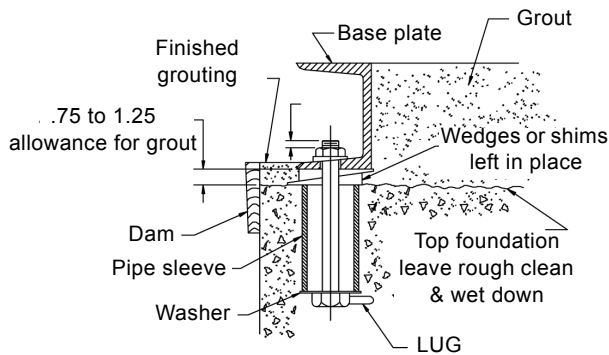

Fig. 2 Anchor bolt installation
Horizontal pumps should be permanently installed on a firm, concrete foundation mounting pad of sufficient size to dampen any vibration and prevent any deflection or misalignment. The pad may float on springs or be a raised part of the equipment room floor. The foundation should be poured without interruption to 3/4 to 1 - 1/2 inches below the final pump elevation. The top surface should be well scored or grooved before the concrete sets to provide a suitable bonding surface for the grout. Anchor bolts should be set in pipe sleeves for positioning allowance, as shown in Fig. 2. Allow enough bolt length for grout, lower base plate flange, nuts and washers. Allow the foundation to cure several days before proceeding with pump installation.
- After pump alignment has been established (LF), put nuts on foundation bolts and tighten them just enough to keep the unit base plate from moving. Construct a form or dam around the concrete pad and pour grout in and around the pump base, as shown in Fig. 2. Grout compensates for uneven foundation, distributes the weight of the unit, and prevents shifting. Use an approved, non shrinking grout (such as Embeco 636 by Master Builders, Cleveland, Ohio or equivalent). Allow at least 24 hours for this grout to set before proceeding with piping connections.
The PACO LCV Vertical Close Coupled pump need not be grouted to its foundation, but should be anchored with 4 anchor bolts set in concrete similar to the horizontal anchoring arrangement Fig. 2.